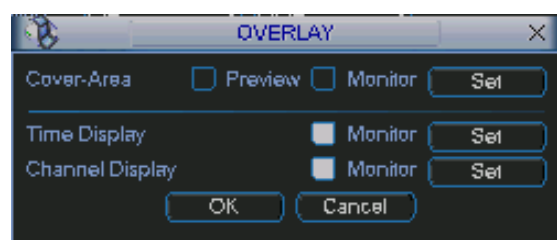

Figure 5-9
- Overlay: Click overlay button, you can see an interface is shown in Figure 5-9.